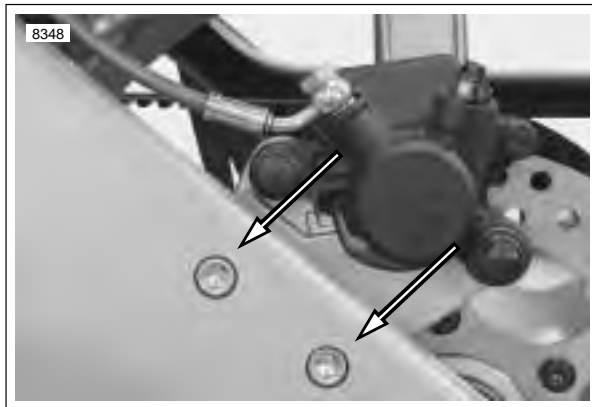

Figure 2-20. Rear Brake Caliper Carrier Fasteners
2. See Figure 2-20. Remove caliper carrier from swingarm by removing caliper carrier fasteners. See 2.15 REAR BRAKE CALIPER.